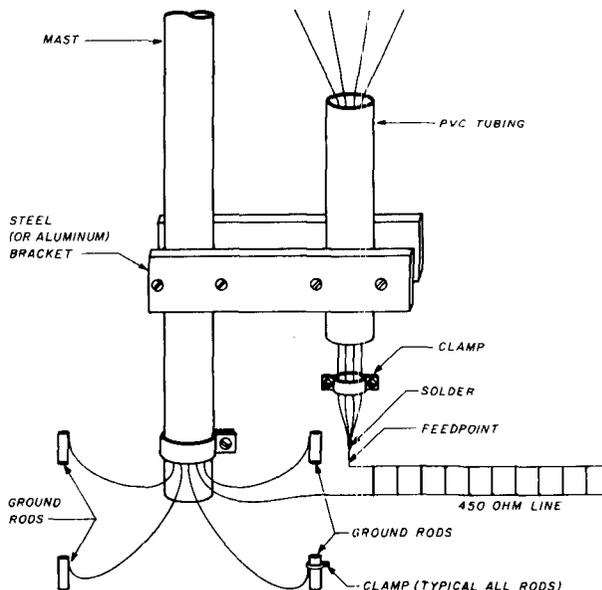
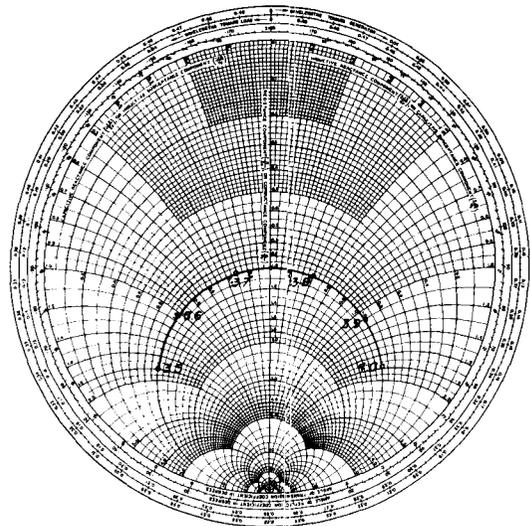
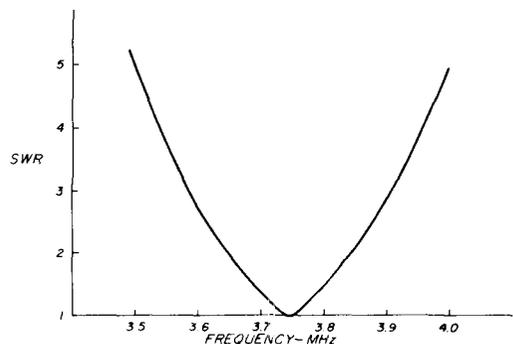

fig. 6. Mechanical details at the bottom end of the TV mast. The ground rods are essential for good performance.
fig. 2. Calculated input impedance of the dipole equivalent circuit, normalized to 50 ohms.
fig. 3. Calculated SWR of the dipole equivalent circuit.
fig. 2. Construction details of the folded umbrella antenna, which is, roughly, the electrical equivalent of the folded unipole. Dimensions are approximate and are not critical.
7. Tie two small loops in each of the four top nylon guys as shown in fig. 2. These loops should be about 4 and 8 meters (12.5 and 25 feet) from their attachment points on the mast.
14. Attach four more 3-mm (1/8-inch) nylon guys to the ring at the top of the section just above the bottom section. This set of guys will end up, on full erection, 6 meters (20 feet) above the ground (fig. 2).
16. Now, provide a bracket at the base of the mast for the purpose of connecting the four umbrella wires together while insulating them from the mast. This is the feedpoint for the antenna. One suggested method of anchoring and insulating the feedpoint is shown in figs. 2 and 6. However, as with other parts of this project, there are many different mechanical arrangements which will produce the same electrical results. Use your ingenuity. Remember, none of the dimensions are really critical, since the tuned feeders compensate for physical variations. If you're following fig. 6, however, pull the umbrella wires through the PVC tubing, tighten the clamp below the tubing, and trim off excess wire, leaving several cm of wire below the clamp. Now, bare the wires below the clamp and solder them together.
securely to the mast with heavy copper wire, tubing or strap (fig. 6).
snow, or rain, as far as tuning is concerned. Figs. 2 and 7 show a simple, practical way of supporting the line. For the experimental model, it was necessary to run the line 18 meters (60 feet) to the house, keeping it at least 3 meters (10 feet) above ground. To relieve tension on the line, 3-mm (1/8-inch) nylon was threaded through the holes in the line and stretched from the mast to the house, serving as a "messenger" cable. Here again, use your own ingenuity to fit your situation.
The plot of the calculated impedance for this mathematical model is shown on the Smith chart in **fig. 2**. The accompanying SWR plot is given in **fig. 3**.